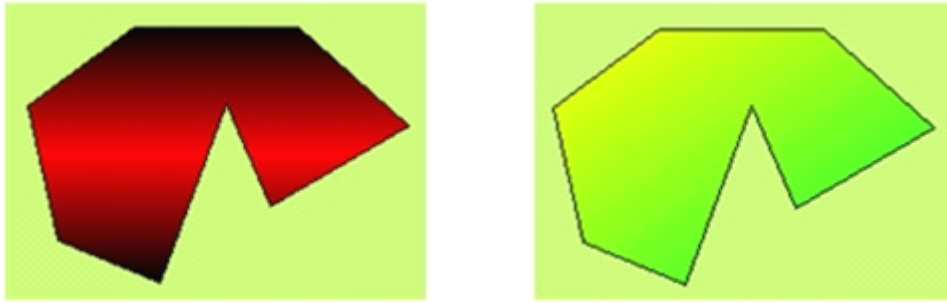

Figure 4-41: An example of a polygon drawn
- You may adjust the properties of the polygon using the pull-down and fine tuning button. IFCDRAW provides 15 frame line types, 10 frame line widths, and 21 filling patterns for polygon to make the graph more beautiful and vivid. See Figure 4-41.